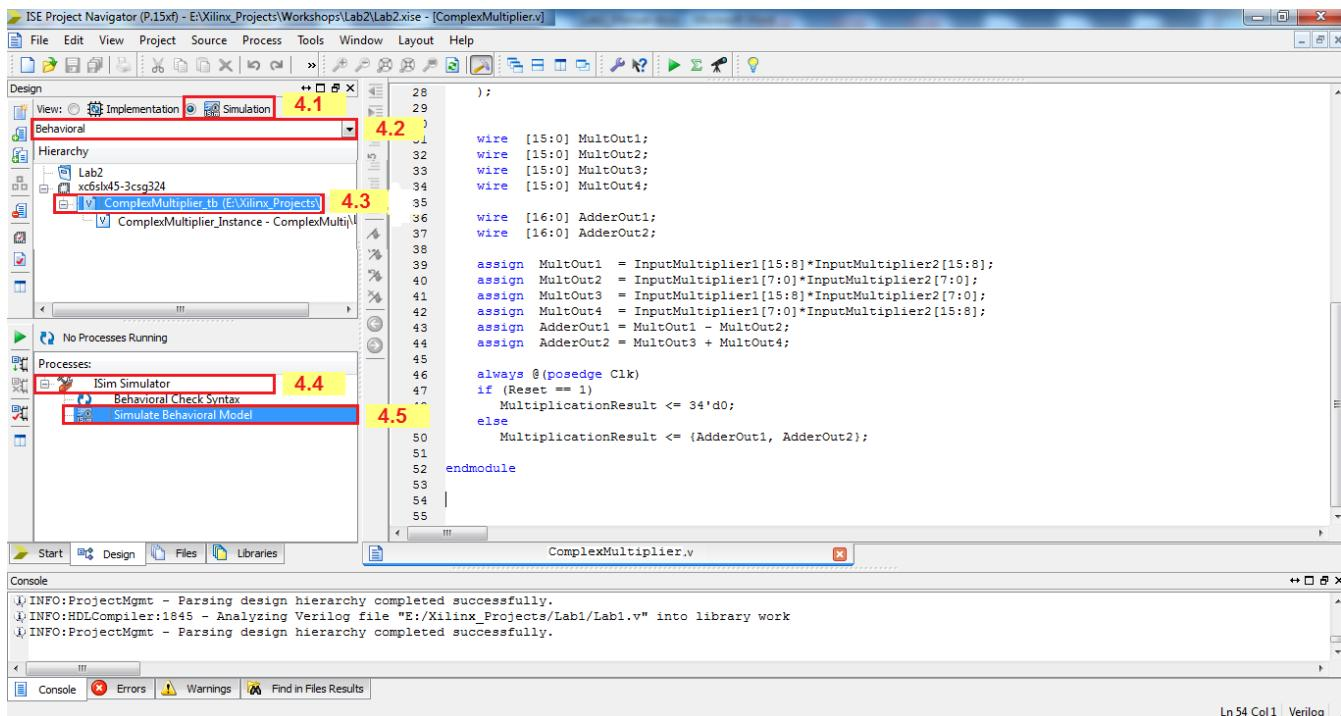

Figure 20.
4. Starting the Behavioral Simulation (Figure 20)